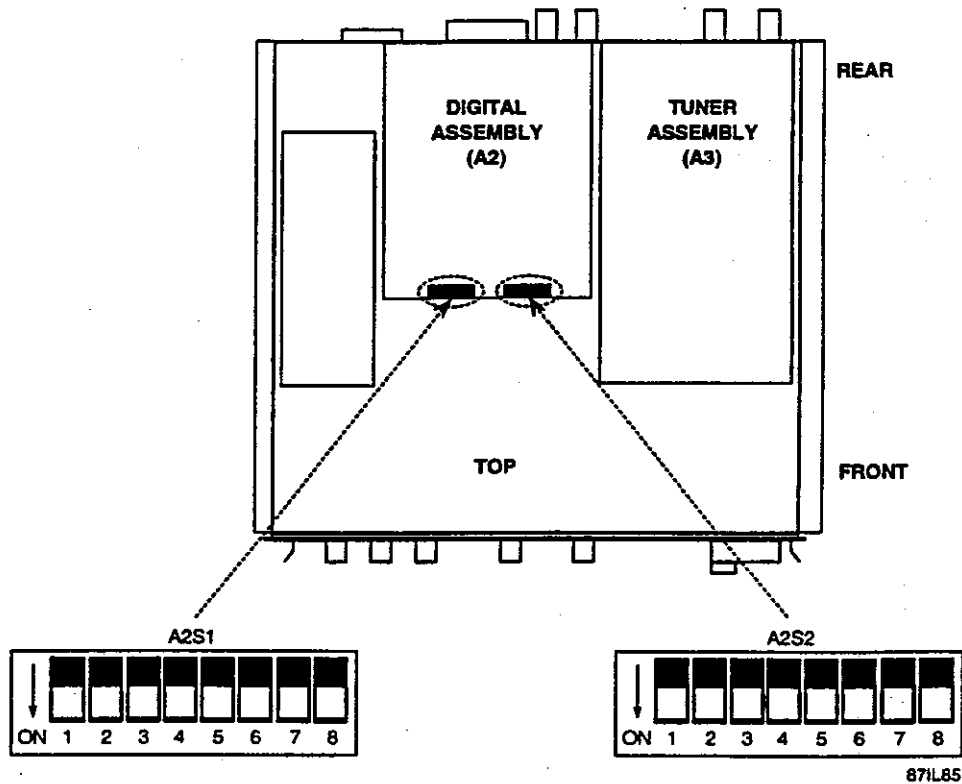

Figure E-3. Location of Switches A2S1 and A2S2 in the WJ-8711A
- d. Locate switches S1 and S2 on the A2 assembly (refer to Figure E-3).